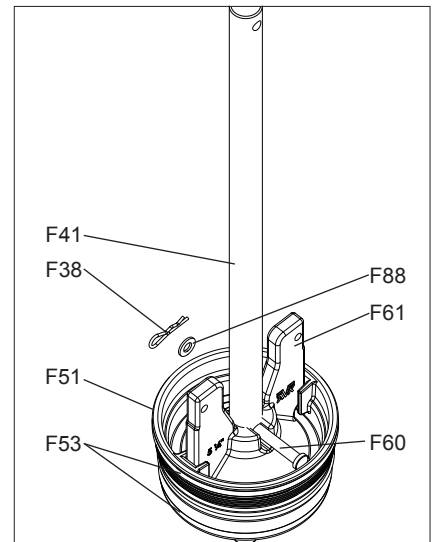

Fig. 7J
10. If any of the above parts are to be replaced, clamp the Lower Stem Rod (F41) in a standard pipe vise. (See Fig. 7J) Remove the Stop Pins (F58) from the Main Valve (F61) and slide the Valve Seat Ring (F51) off the ears of the Main Valve. To disconnect the Main Valve from the Lower Stem Rod (F41) remove the Spring Pin (F38), and Main Valve Retaining Pin Washer (F88), from the Main Valve Retaining Pin (F60). Reverse the steps for reassembly. Lightly grease the Main Valve ears and Main Valve O-rings (F53), with a food grade grease that contains no acetate or silicone.